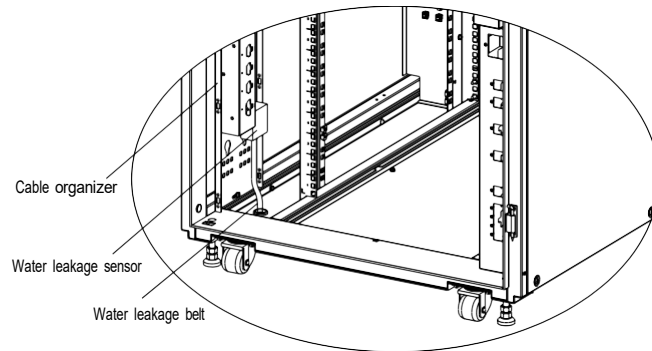

Figure 2-28 Water Sensor mounting position
1) Open the rear door of the SmartCabinet 2-P unit and attach the cable type water leak detection sensor to the lower part of the cable management board. The specific position is determined according to the site, as shown in Figure 2-28.